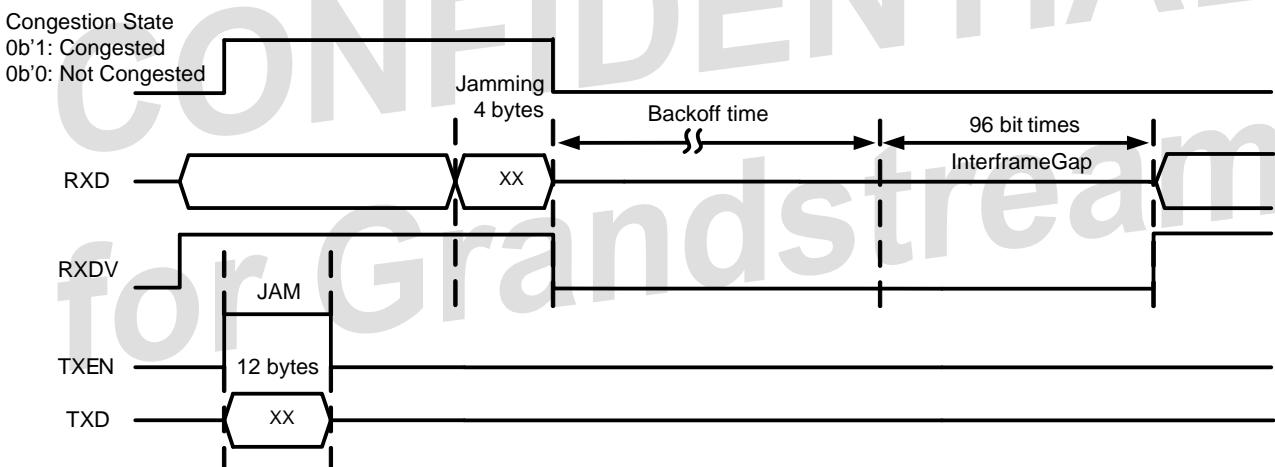

Figure 13. Signal Timing for Collision-Based Backpressure
- After the RTL8380M-VB/RTL8382M-VB receives this jamming signal, it drives RXDV low. The link partner waits for a random backoff time then re-sends the packet. The timing is shown in Figure 13